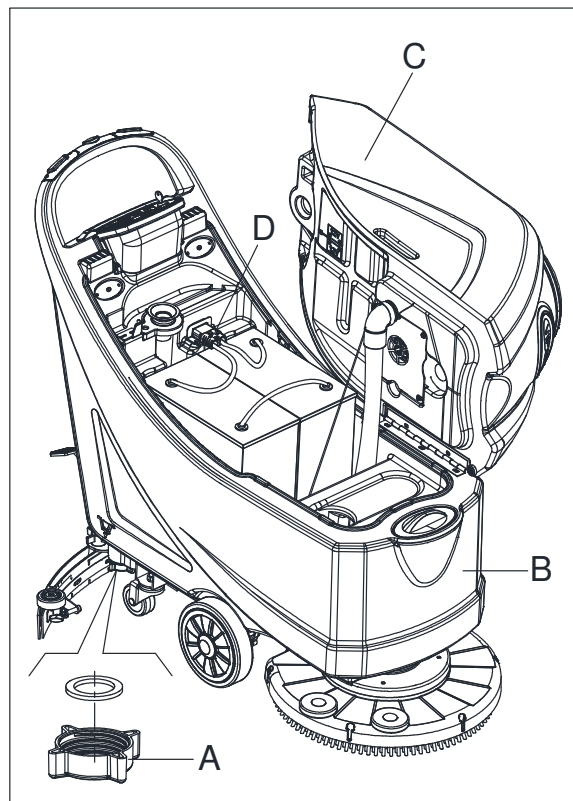

Figure 13
7. Empty the solution tank with the outlet cover (A, Figure 13). After working, rinse the tank with clean water.
2. Empty the tanks (B and C, Figure 13) as shown in the previous paragraph.